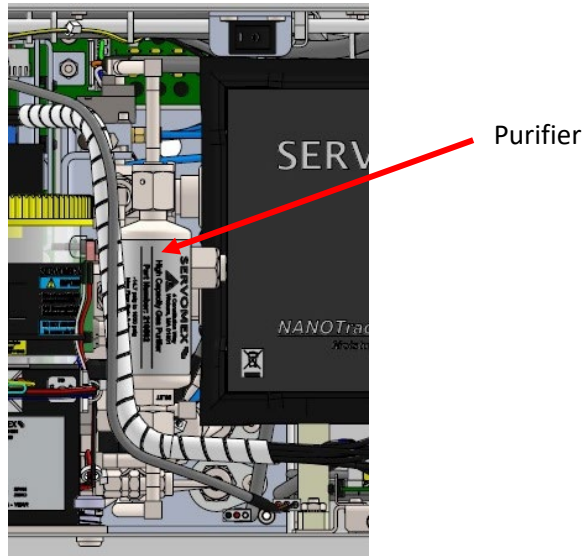

Figure 17: Purifier Installation
- f. Install the purifier in the analyzer with the direction of flow arrow pointing up. Tighten the bottom fitting first (see **Figure 17**).